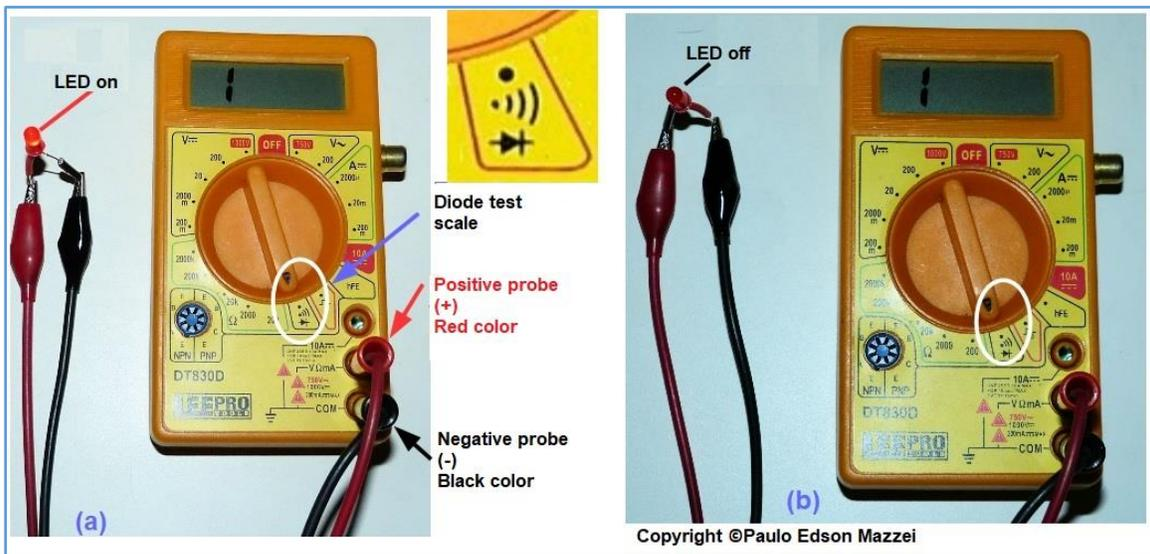

Figure 167 - Finding the polarity of an LED with the digital multimeter.
► The LED will light and the Meter will indicate an "1" reading. In this condition, the **positive terminal of the multimeter** (red) is connected to the anode and the negative terminal of the multimeter is connected to the cathode. See **Figure 167, (a)**. This reading of "1" does not mean anything.
► The LED will not light and the Meter will indicate an "1" reading. In this condition, the **negative terminal of the multimeter** (black) is connected to the cathode and the positive terminal of the multimeter is connected to the anode. See **figure 167, (b)**.